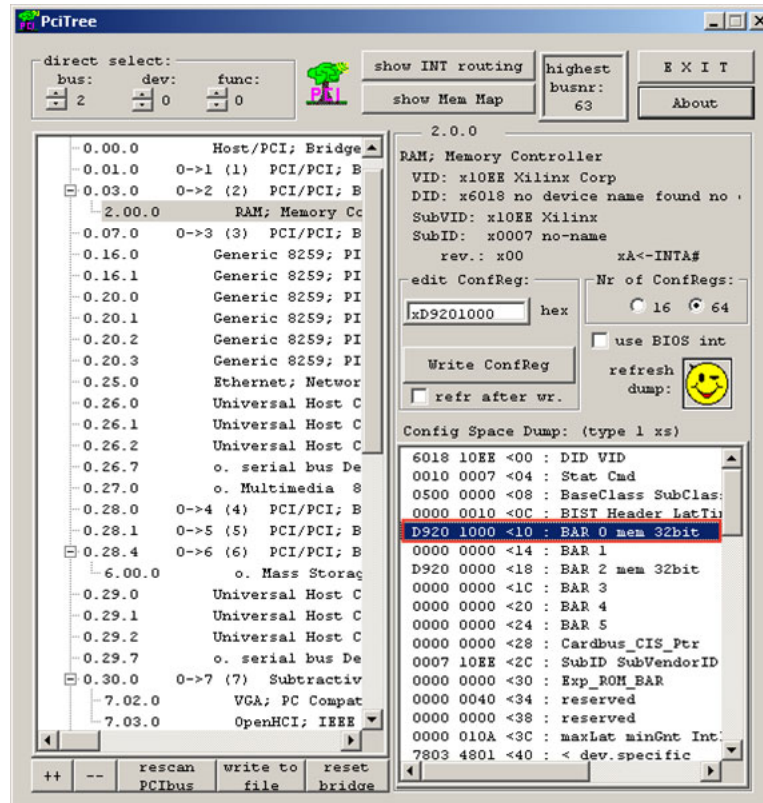

Figure 1-37: Double-Click on BAR 0
19. Double-click on BAR 0 (as shown in Figure 1-37).